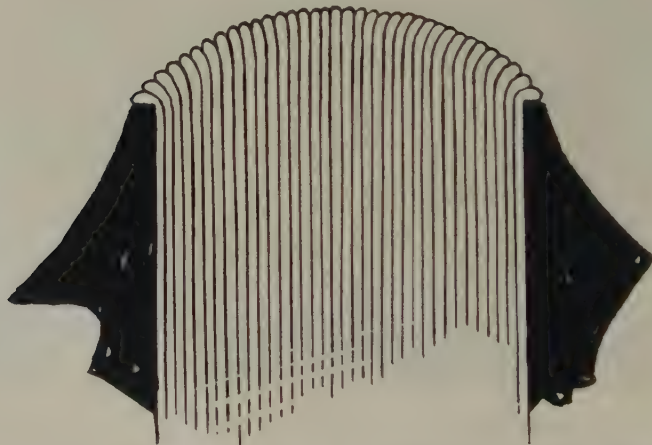

FIG. 205—CORRECT SHAPE OF A ROUNDED AND BACKED BOOK
7. Using your backing hammer, start tapping along the two edges of back nearest backer jaws, working the entire length of book and at same time working over the entire width of back, obtaining a perfect "round" to book, alike along the entire back. You must be very careful not to strike too hard at any one point but with a sidewise motion to hammer, which will first shape sections toward jaws and gradually set them in that position. When properly done your book will resemble Fig. 205 when removed from backer.